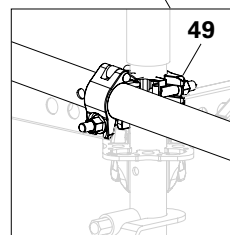

Fig. A15.06a
2. Install the inner tube or scaffolding tube on the standard (**13**) with a swivel coupling (**49**). Tighten the swivel coupling. (Fig. A15.06a)